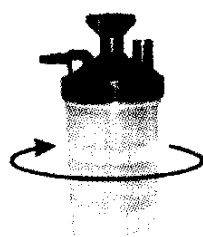
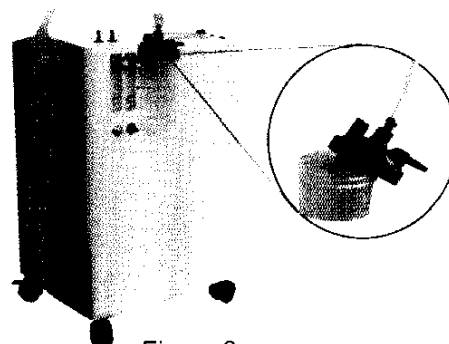

Figure 5
Figure 6
- 9.1. If used with a humidifier, unscrew the flask from the humidifier in clockwise direction, pour in proper distilled water or cold boiled water within the scale between the max line and the min line, then re-connect the top cover to the humidifier bottle, as shown in Figure 5 or Figure 6. The humidifier must comply with the general requirement of the 93/42/EEC European Directive as appropriate.